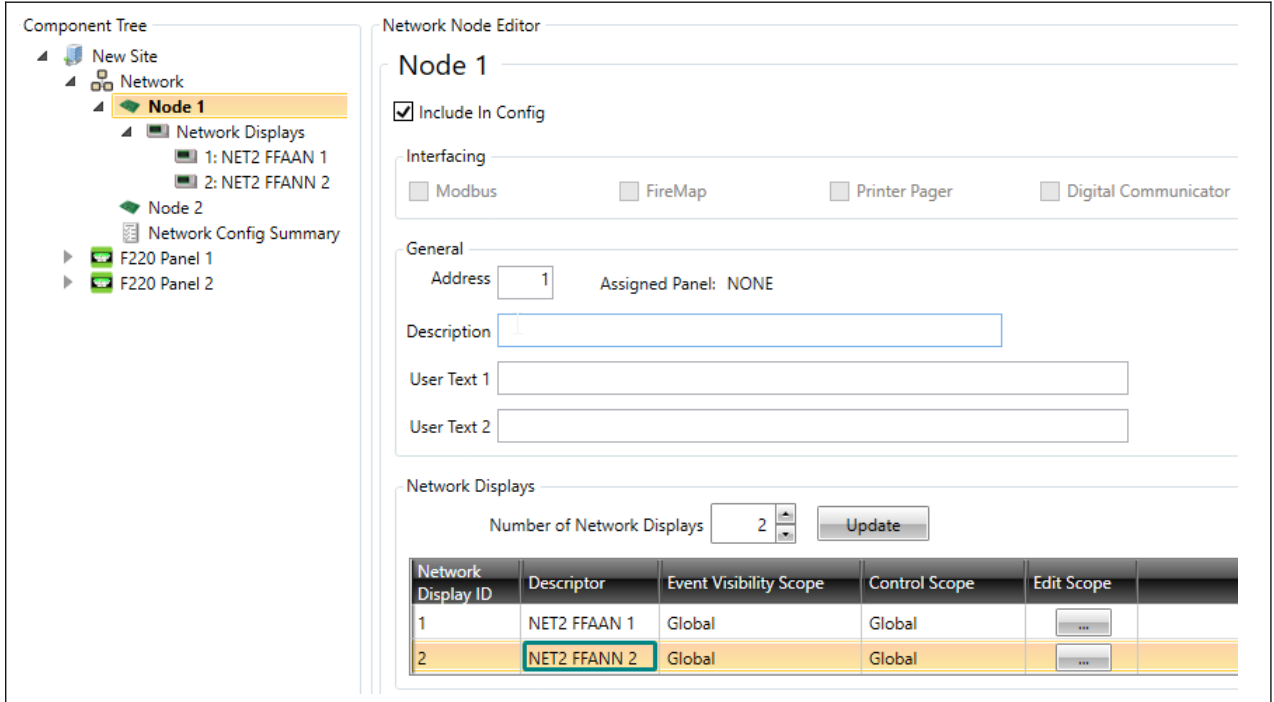

Figure 20-34: Adding Network Displays to Node 1
- Each Network Display can be given a description (up to 31 characters) that will be displayed on the Annunciator. Refer to Figure 20-34. The description for “NET2-FFANN 1” in the Displays sub window will be assigned to the Annunciator type device with address 1, and the “NET2-FFANN 2” description will be assigned to the Annunciator type device with address 2. The Annunciator type devices can be physically connected in any order on the Network Peripheral Bus.